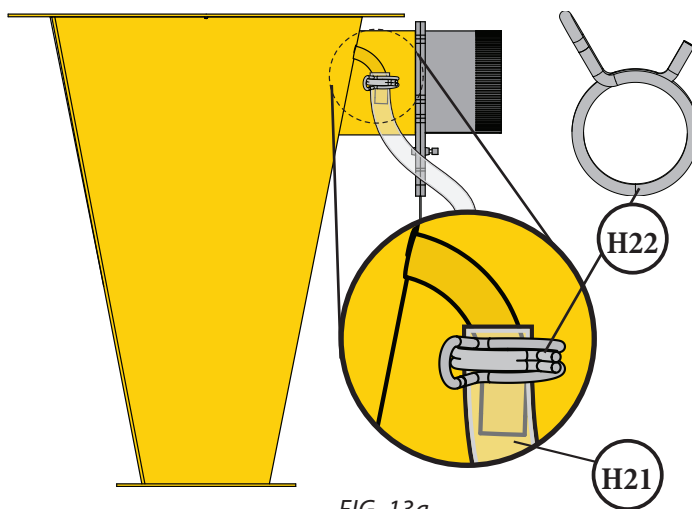

FIG. 13a
Using pliers, squeeze and open the Double Spring Clamp (H22) and slip it onto the shorter end of the Tubing Assembly (H21A). Then, with the clamp still open, slide the Tube Assembly (H21) onto the vent tube near the Cyclone's (E) inlet, closing the Spring Clamp once the hose is fully seated [FIG. 13a].